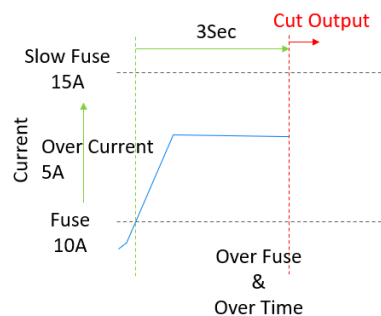

Figure 2-8-8 Over Timer Buffer
• Over Time Buffer (Figure 2-8-8):